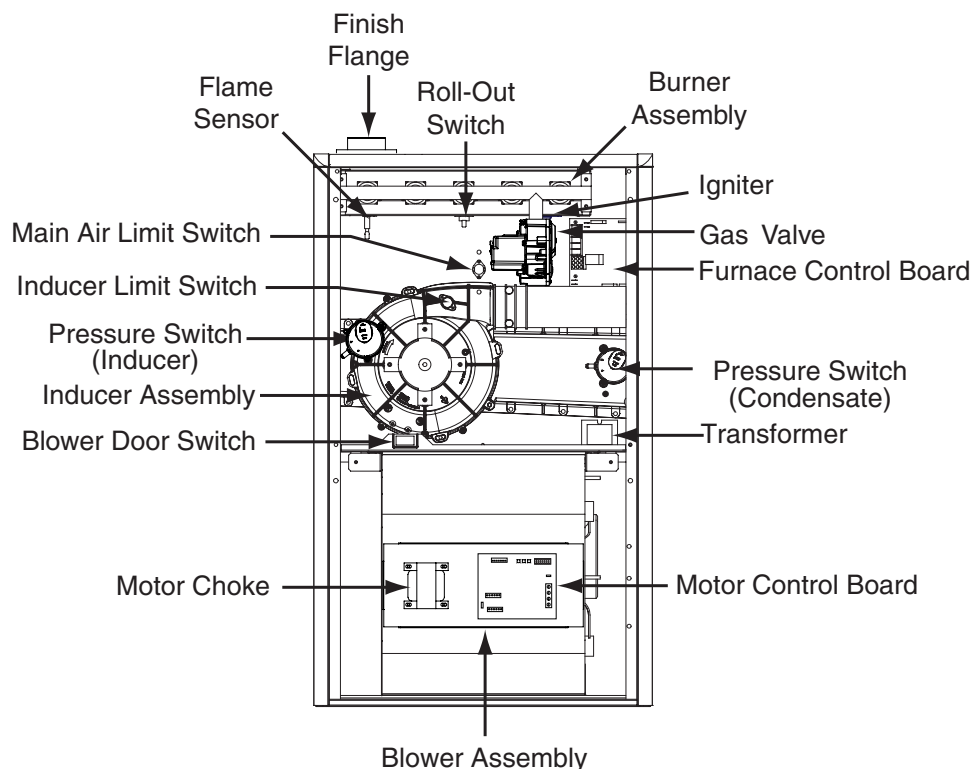
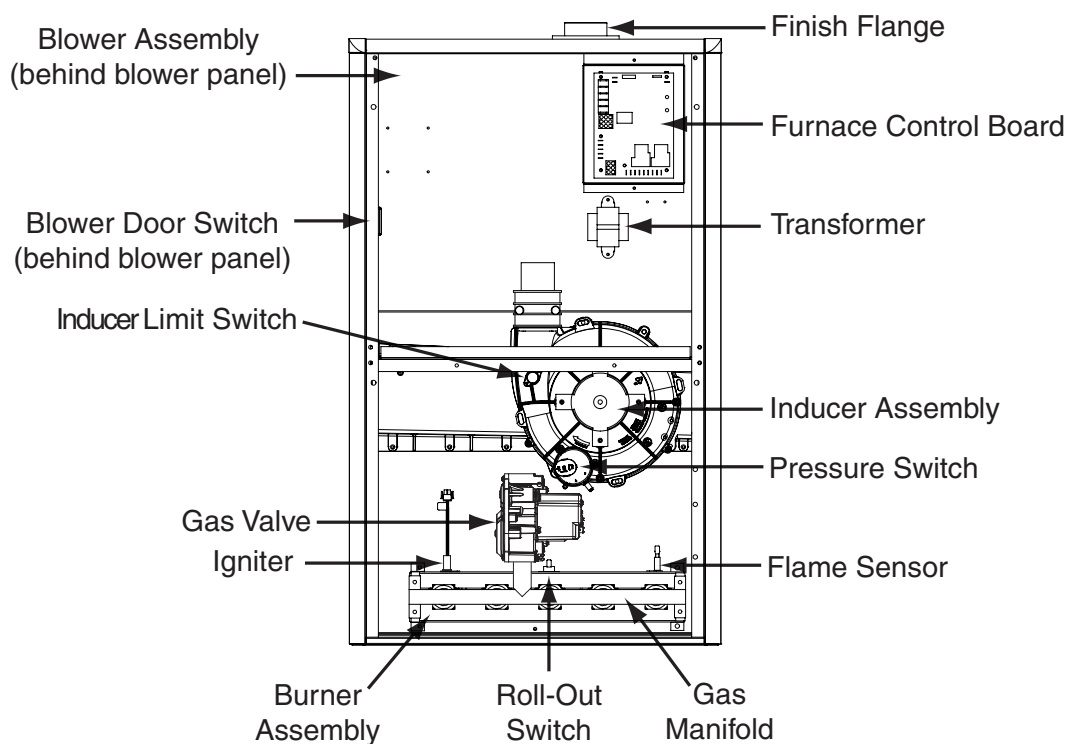

Figure 37. J951X*U Component Locations
Figure 38. J951X*D Component Locations
- If the Inducer Blower is operating, and items above have been verified, check the Blower Limit Switch and reset if necessary. See Figure 37 (page 41) or Figure 38 (page 41) for component location.
The descriptions below are various functional components that affect the operation and shutting down of this furnace. Some of these components and their locations are shown in Figure 37 (page 41) or Figure 38 (page 41). If any component of the furnace must be replaced, use only factory authorized replacement parts specified in the Replacement Parts List provided online.